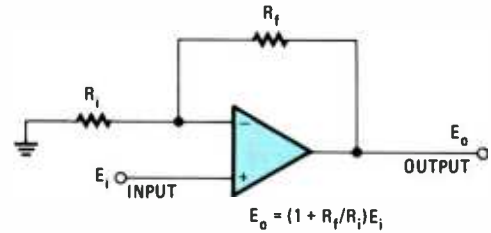

Fig. 7—This is a non-inverting op-amp having voltage gain.
20. (+1 or unity) Sometimes a non-inverting amplifier with gain is required. That combination of qualities can be obtained with the circuit shown in Fig. 7. The circuit is similar to a standard inverter, but the input resistor ( $R_i$ ) is grounded and the input signal is applied to the non-inverting (+) input. The gain of this circuit is:  $1 + R_f/R_i$ . If  $R_f = 100K$  and  $R_i = 40K$ , the gain is  $1 + 100K/40K = 1 + 2.5 = 3.5$ .